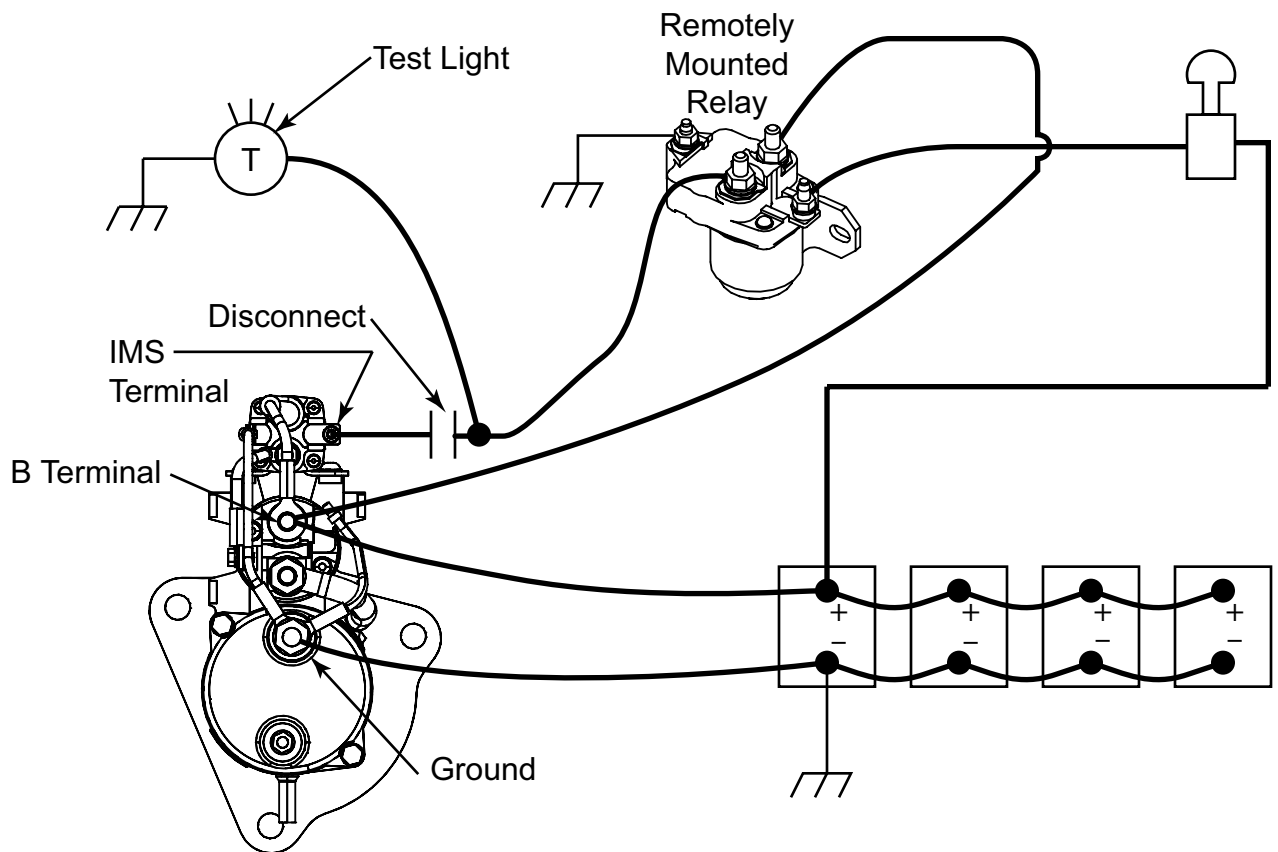

Figure 13: Step 4A – Key Switch Circuit w/ Remote Mounted Relay
- ▶ See Figure 13 or 14 for key switch circuit diagram, depending on vehicle's electrical system